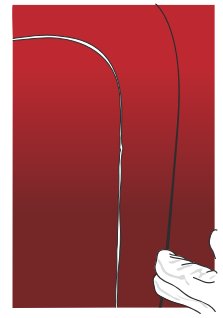

Figure 18
*Tip: To avoid substrate appearing at the cut (FIG. 18), you can apply a strip of vinyl on the concave part of the substrate where you will make the cut. Thus, when you apply the film and make the cut, the overlap of the vinyl will conceal the substrate. Cut and remove the surplus material right after application.*